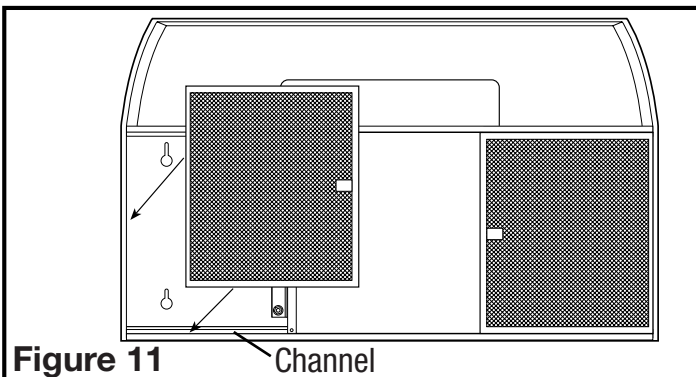

Figure 11
2. Reinstall the filters by fitting them into the channel on either side of the hood and pushing upwards on them until they are secured in place (Figure 11).